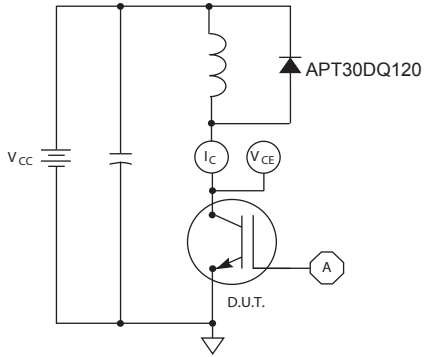

Figure 21, Inductive Switching Test Circuit
① Repetitive Rating: Pulse width limited by maximum junction temperature.
② For Combi devices, I_{ces} includes both IGBT and FRED leakages.
③ See MIL-STD-750 Method 3471.
④ E_{on1} is the clamped inductive turn-on energy of the IGBT only, without the effect of a commutating diode reverse recovery current adding to α the IGBT turn-on loss. Tested in inductive switching test circuit shown in figure 21, but with a Silicon Carbide diode.
⑤ E_{on2} is the clamped inductive turn-on energy that includes a commutating diode reverse recovery current in the IGBT turn-on switching loss. (See Figures 21, 22.)
⑥ E_{off} is the clamped inductive turn-off energy measured in accordance with JEDEC standard JESD24-1. (See Figures 21, 23.)
⑦ R_G is external gate resistance not including gate driver impedance.